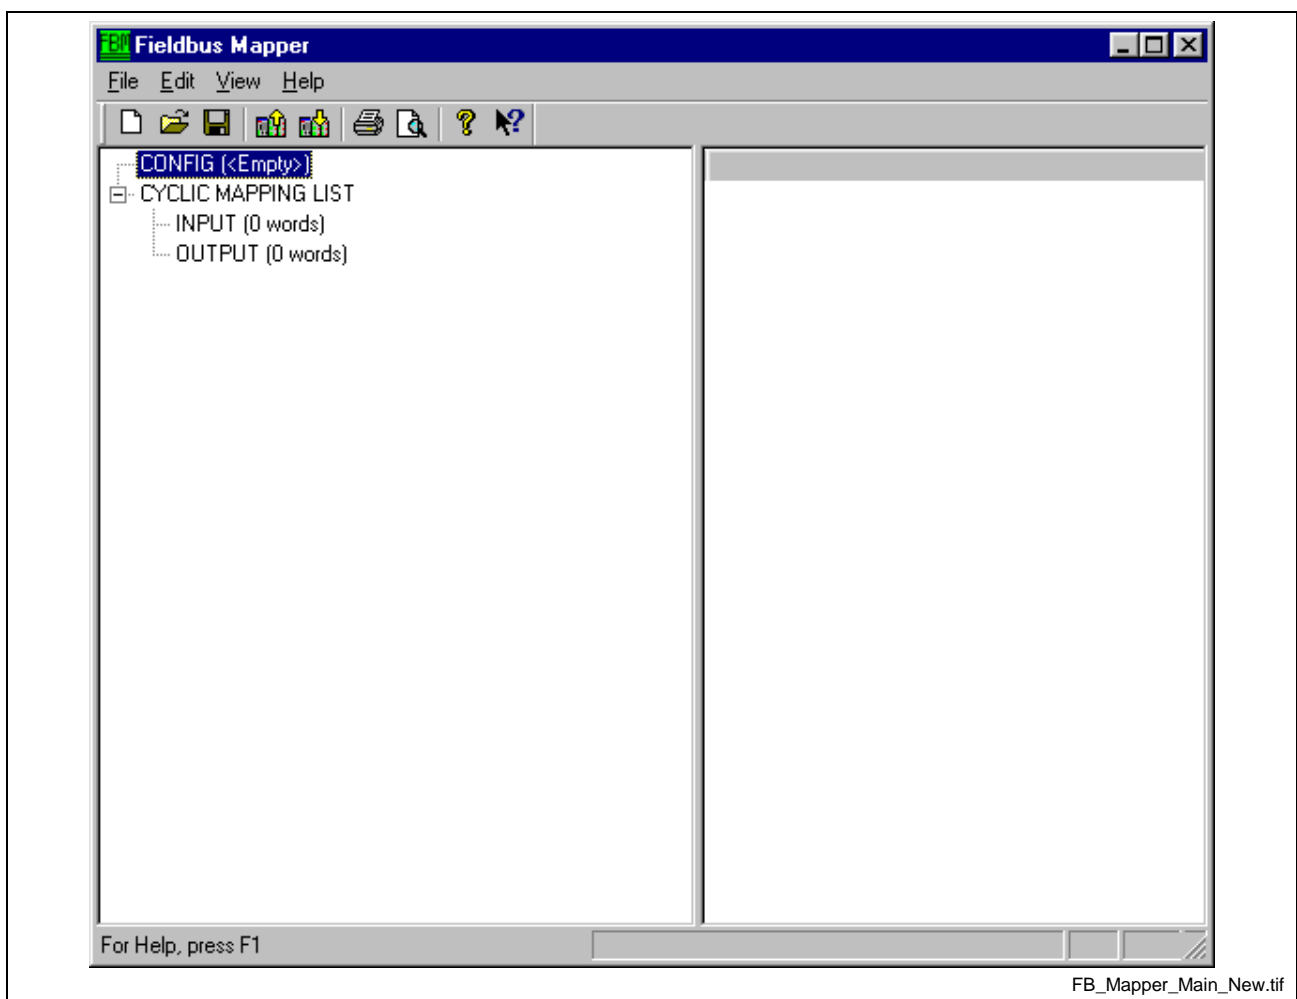

Fig. 7-5: Fieldbus Mapper Main Screen (Blank)
2. Select **Data⇒Fieldbus Mapper**. The main Fieldbus Mapper screen appears (refer to Fig. 7-5 below).